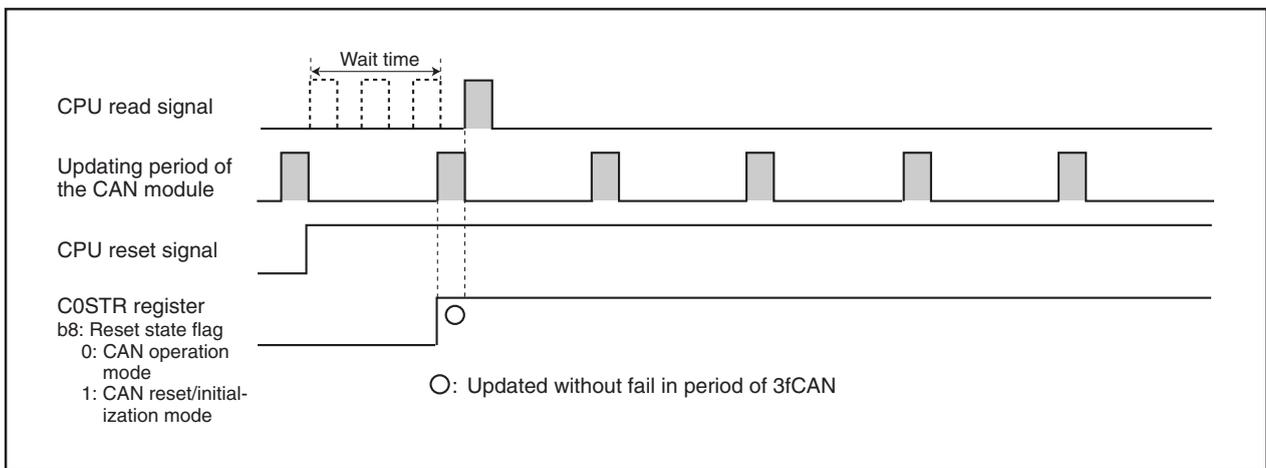

Figure 23.4 With a Wait Time of 3fCAN Before CPU Read
- (a) There should be a wait time of $3f_{CAN}$ or longer (see **Table 23.1 CAN Module Status Updating Period**) before the CPU reads the C0STR register. (See **Figure 23.4 With a Wait Time of $3f_{CAN}$ Before CPU Read.**)